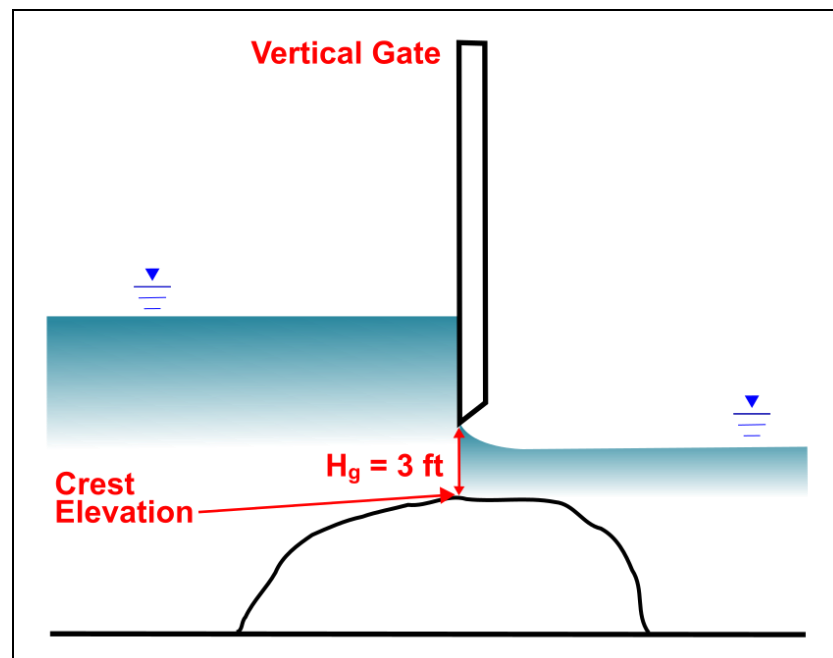

Figure 4 Height of gate opening
7. Enter “3” in the *Height of Gate Opening* (H_g). This represents the opening measured vertically from the base of the structure to the top of the gate opening as shown in Figure 4.